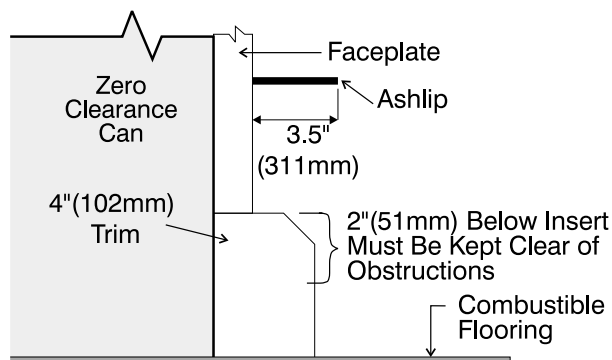

Figure 1
- a) An ashlip is mandatory on a U31/I31 Flush (flat window) Insert when installed less than 6" (152mm), (including the 4" (102mm) Hearth Trim) to a combustible floor (see Figure 1). For detailed installation see Faceplate and Trim Installation.